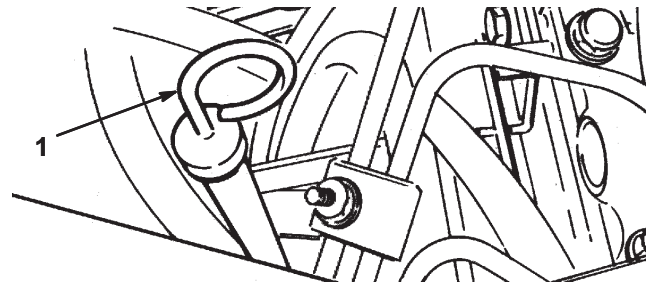

Figure 20
2. Remove the dipstick (Fig. 20) and wipe it with a clean rag. Push the dipstick down into the dipstick tube and make sure it is seated fully. Pull the dipstick out and check the oil level.